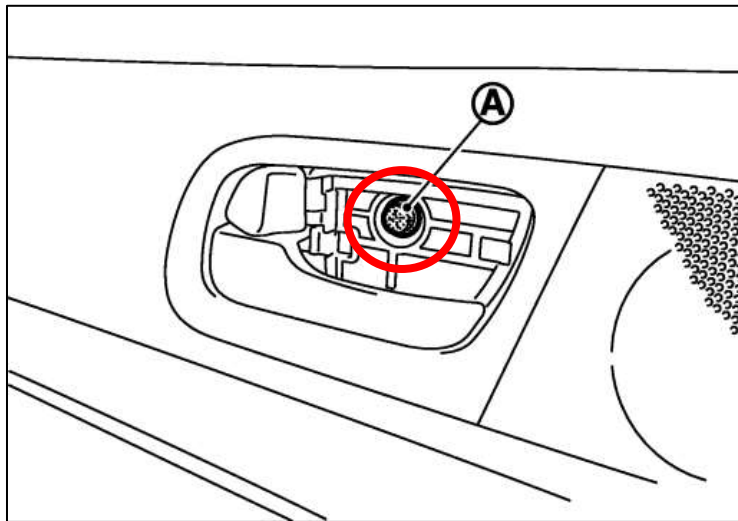

Figure 55
3. Remove the (1) one 10mm Bolt behind the Trim Piece that was just removed. *Figure 55.*